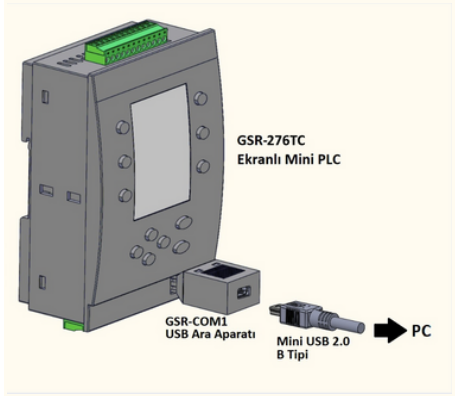

Figure 14: Utilizing GSR-COM1
- As illustrated in Figure 14, the GSR-COM1 communication intermediary device is inserted into the PCOM Port socket, with the tabs on the lateral surfaces engaging the socket.